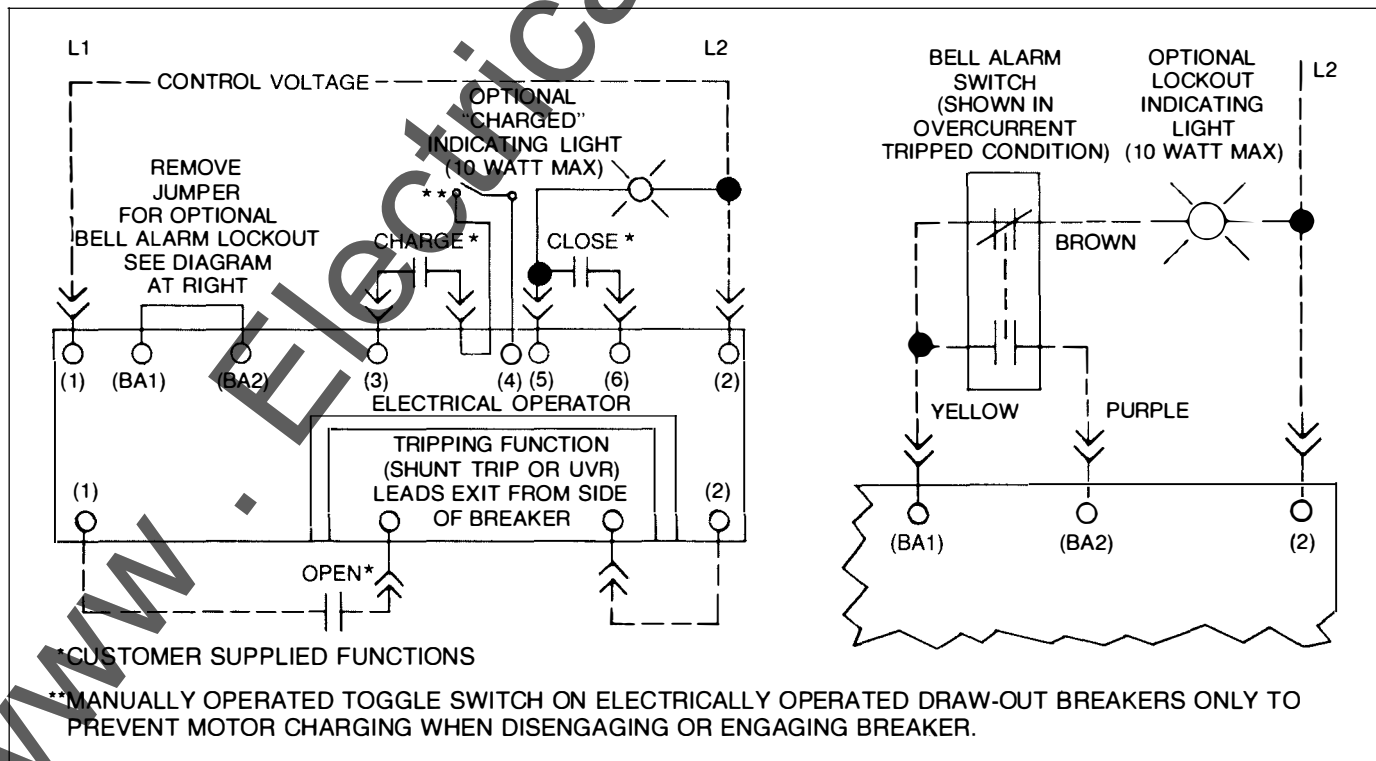

Fig. 36.1 800-2000A Frame, AC or DC Power Source Wiring Diagrams
1. Do not apply power to any terminals other than (1) and (2).
a) For bell alarm lockout—Interconnect bell alarm switch to motor operator terminal board as shown in Figures 36.1 or 37.1.